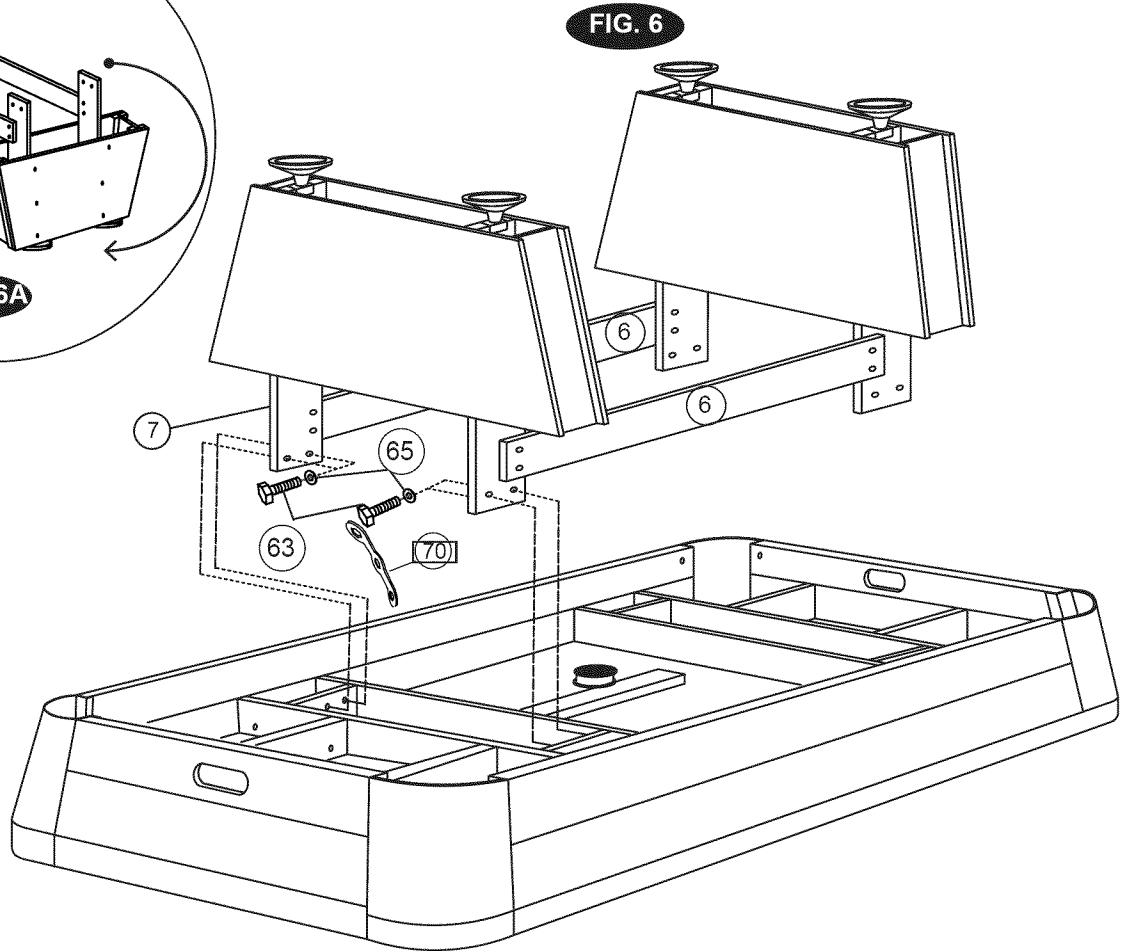

FIG. 6
- Attach leg assemblies to Main Cabinet using eight Bolts (#63) and eight Washers (#65). See Fig. 6.